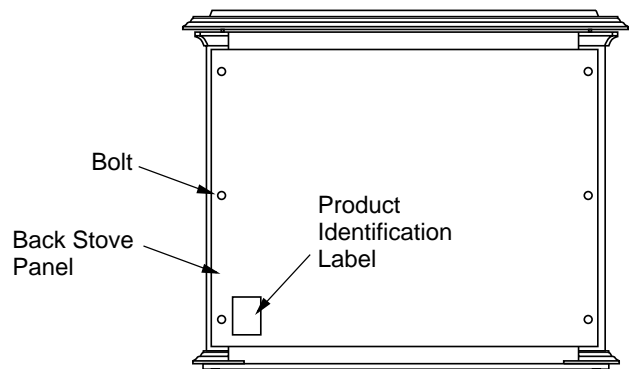

Figure 6 - Removing Back Panel
4. Locate the product identification label on the back panel (see figure 6) and record the model number and 7 digit serial number in the space provided in the back of this owner's manual. Retain this operation and installation manual for future reference and warranty.
5. Remove the six (6) bolts on the back stove panel with an adjustable wrench or a 10 mm socket. Discard the back panel and retain the bolts and washers to attach the rear cover provided with the burner system.